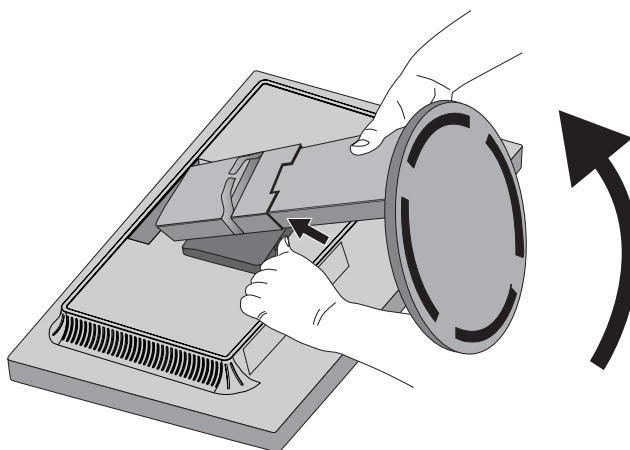

Figure S.1
3. Place the monitor face down on a non-abrasive surface (**Figure S.1**).
4. Place one hand around the base and one hand on the Quick Release Lever. Push and hold the Quick Release Lever in the direction indicated by the arrow (**Figure S.1**).
5. Lift up the stand to unhook it from the monitor (**Figure S.1**).